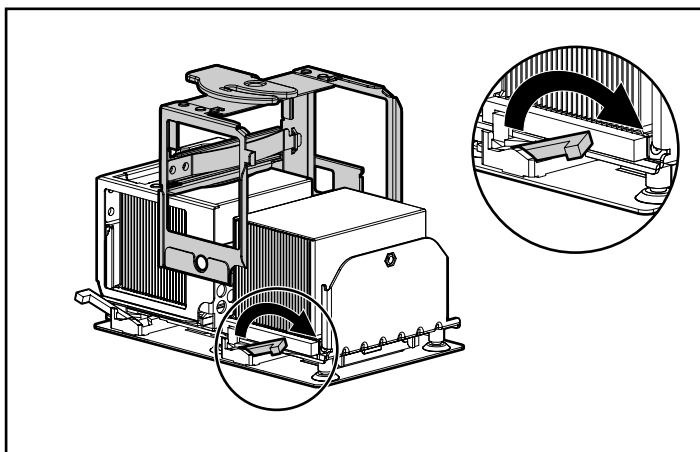

Figure 3-39: Lifting the processor locking lever
- a. Lift the processor locking lever upward to release the processor from the socket (Figure 3-39).